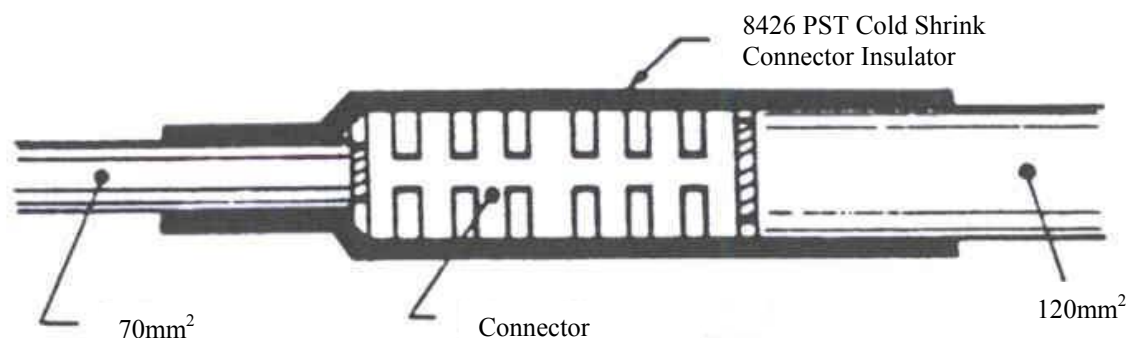

Figure 1
- ❖ Insulation of inline conductor transition connectors (see Figure 1)